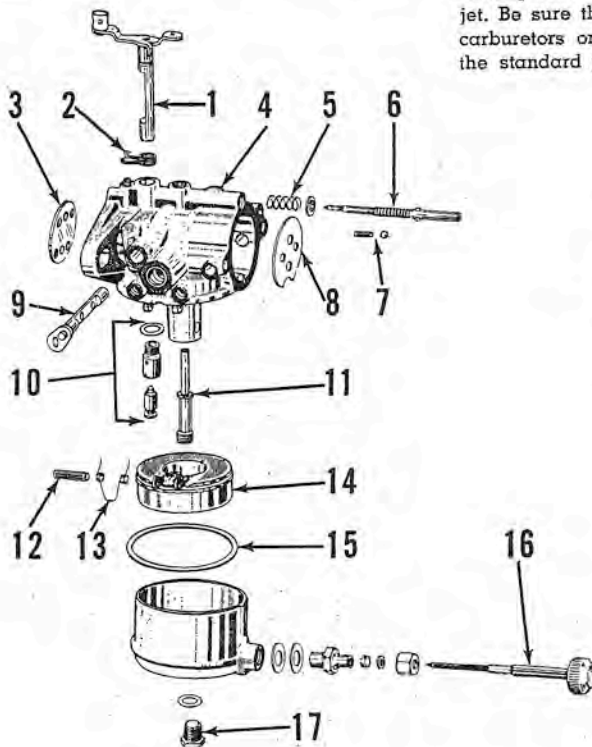

Fig. M75—Exploded view of Carter carburetor used on some early models.
Carter Model N-2537S: Refer to Fig. M75. Initial setting is 1 1/4 turns open for both the idle adjusting needle (6) and high speed adjusting needle (16). Final adjustment must be made under load after operating temperature has been reached. Adjust the high-speed needle to provide the leanest setting which will permit full power and acceleration. Adjust the idle needle after high speed needle has been adjusted, to provide smooth operation under load at slow speeds. Clockwise rotation of the high speed adjusting needle leans the mixture. Clockwise rotation of the idle needle provides a richer mixture.